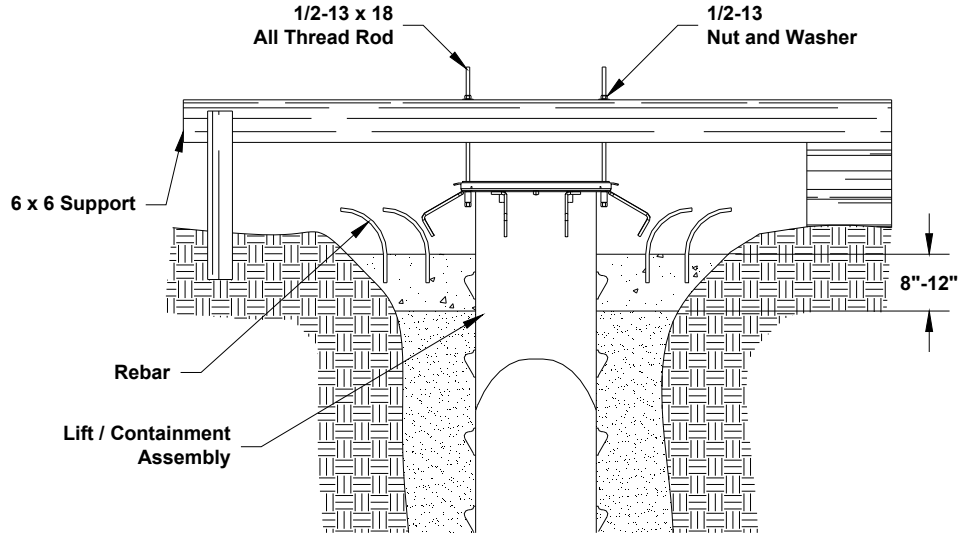

Fig. 6
13. Pour 8" to 12" of concrete around the top of the lift / containment assembly and install rebar to tie in the finished floor. Refer to **Fig. 6**.